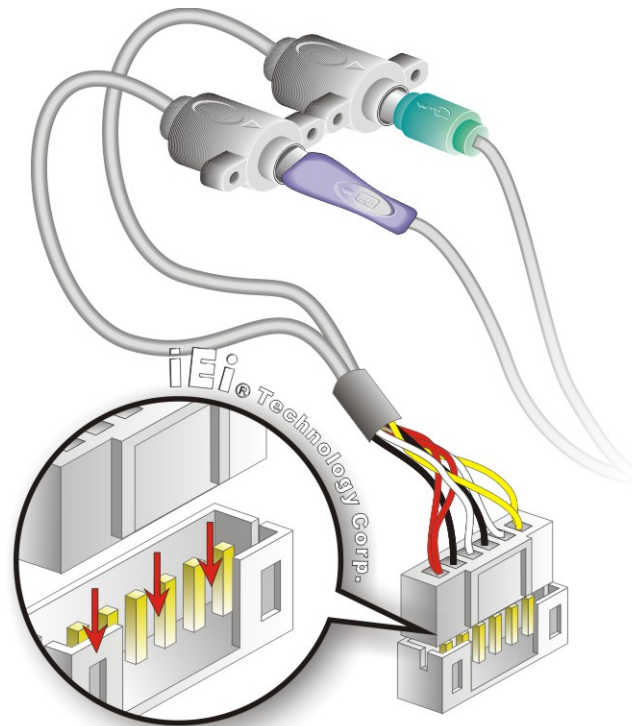

Figure 5-16: Keyboard/mouse Y-cable Connection
the WAFER-945GSE 40-pin serial port connector. See **Figure 5-16**.
Step 3: Insert the cable connectors Once the cable connector is properly aligned with the 40-pin serial port connector on the WAFER-945GSE, connect the cable connector to the on-board connectors. See **Figure 5-16**.
- Step 2: Align the connectors.** Correctly align pin 1 on the cable connector with pin 1 on the WAFER-945GSE keyboard/mouse connector. See **Figure 5-16**.
connector to the on-board connectors. See **Figure 5-16**.